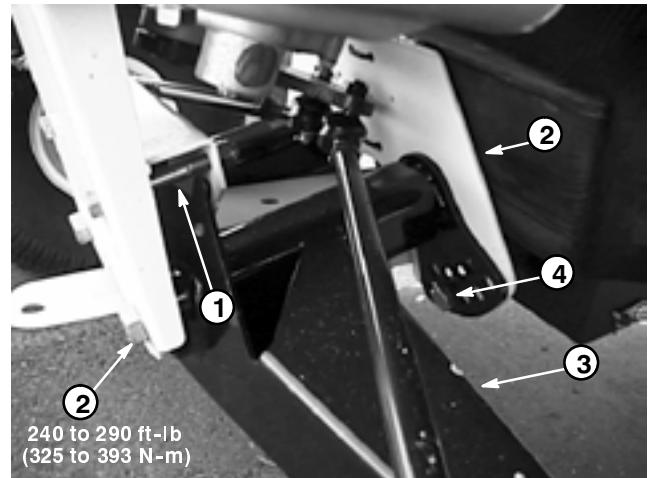

Figure 4
3. Remove travel limiting bolt (Fig. 4).
4. Loosen centering bolts (front and rear) in the A-arm (Fig. 4).
8. Replace travel limiting bolt (Fig. 4 and 5).